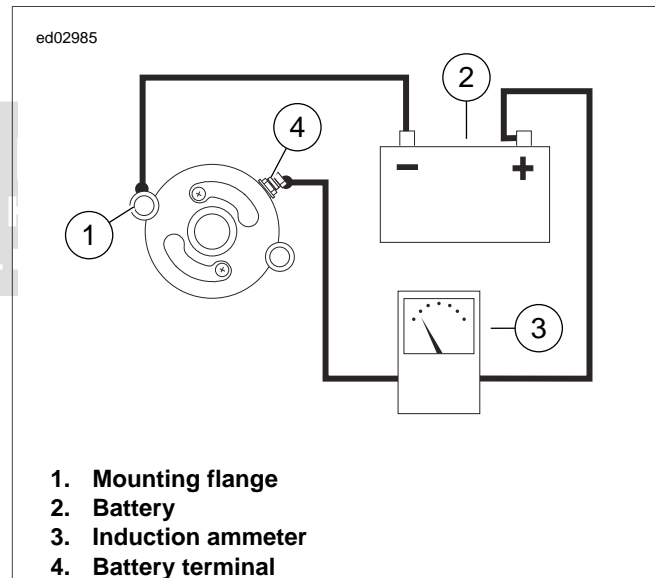

Figure 3-11. Free Running Current Draw Test
2. See Figure 3-11, attach one heavy jumper cable (6 gauge minimum) as follows: